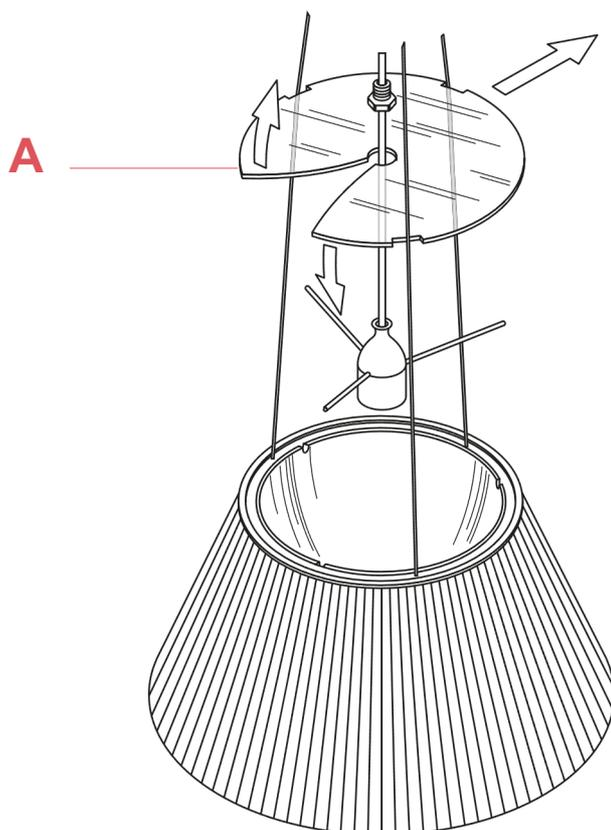

Fig.1
Insert the anti-dust screen (A) by bending the sides of the screen and inserting it through the electrical cable.(Fig.1 page 43)